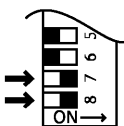

Fig. 5
12. Set the Rinnai Water Heater to 'Forced High' combustion by setting both No. 7 and No. 8 dip switches of the bottom (SW1) set to 'ON'. (Fig.5). **Ensure maximum water flow !**